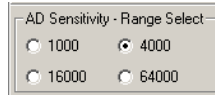

FIGURE 13. SENSITIVITY RANGE SELECTION
- **Sensitivity-Range Select** (Figure 13) allows us to choose the sensitivity of the sensor based on external conditions/object detection. For example, a really bright object would require a higher range (i.e. 64000), versus a dark object, which would require a low range (i.e. 1000). Higher range reduces photo detector sensitivity